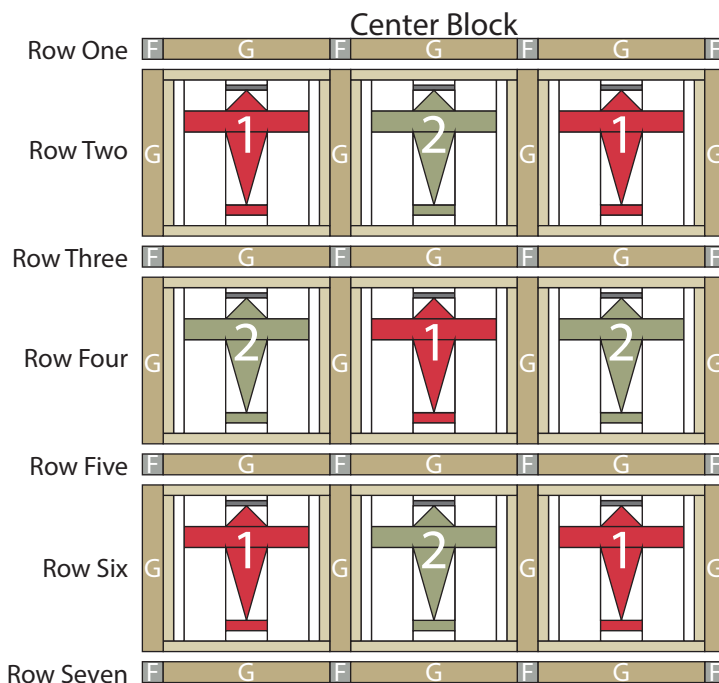

Fig. 20
20. Sew together (4) $2\frac{1}{2}$ " Fabric F squares and (3) $2\frac{1}{2}$ " x $16\frac{1}{2}$ " Fabric G strips, alternating them from left to right, to make Row One (Fig. 20). Repeat to make Row Three, Row Five and Row Seven.
21. Sew together (1) $2\frac{1}{2}$ " x $16\frac{1}{2}$ " Fabric G strip, (1) Block One square, (1) $2\frac{1}{2}$ " x $16\frac{1}{2}$ " Fabric G strip, (1) Block Two square, (1) $2\frac{1}{2}$ " x $16\frac{1}{2}$ " Fabric G strip, (1) Block One square and (1) $2\frac{1}{2}$ " x $16\frac{1}{2}$ " Fabric G strip, in that order from left to right, to make Row Two (Fig. 20). Repeat to make Row Six.
22. Sew together (1) $2\frac{1}{2}$ " x $16\frac{1}{2}$ " Fabric G strip, (1) Block Two square, (1) $2\frac{1}{2}$ " x $16\frac{1}{2}$ " Fabric G strip, (1) Block One square, (1) $2\frac{1}{2}$ " x $16\frac{1}{2}$ " Fabric G strip, (1) Block Two square and (1) $2\frac{1}{2}$ " x $16\frac{1}{2}$ " Fabric G strip, in that order from left to right, to make Row Four (Fig. 20).
23. Sew together the (7) pieced Rows, lengthwise and in numerical order from top to bottom, to make the $56\frac{1}{2}$ " x $56\frac{1}{2}$ " Center Block (Fig. 20).